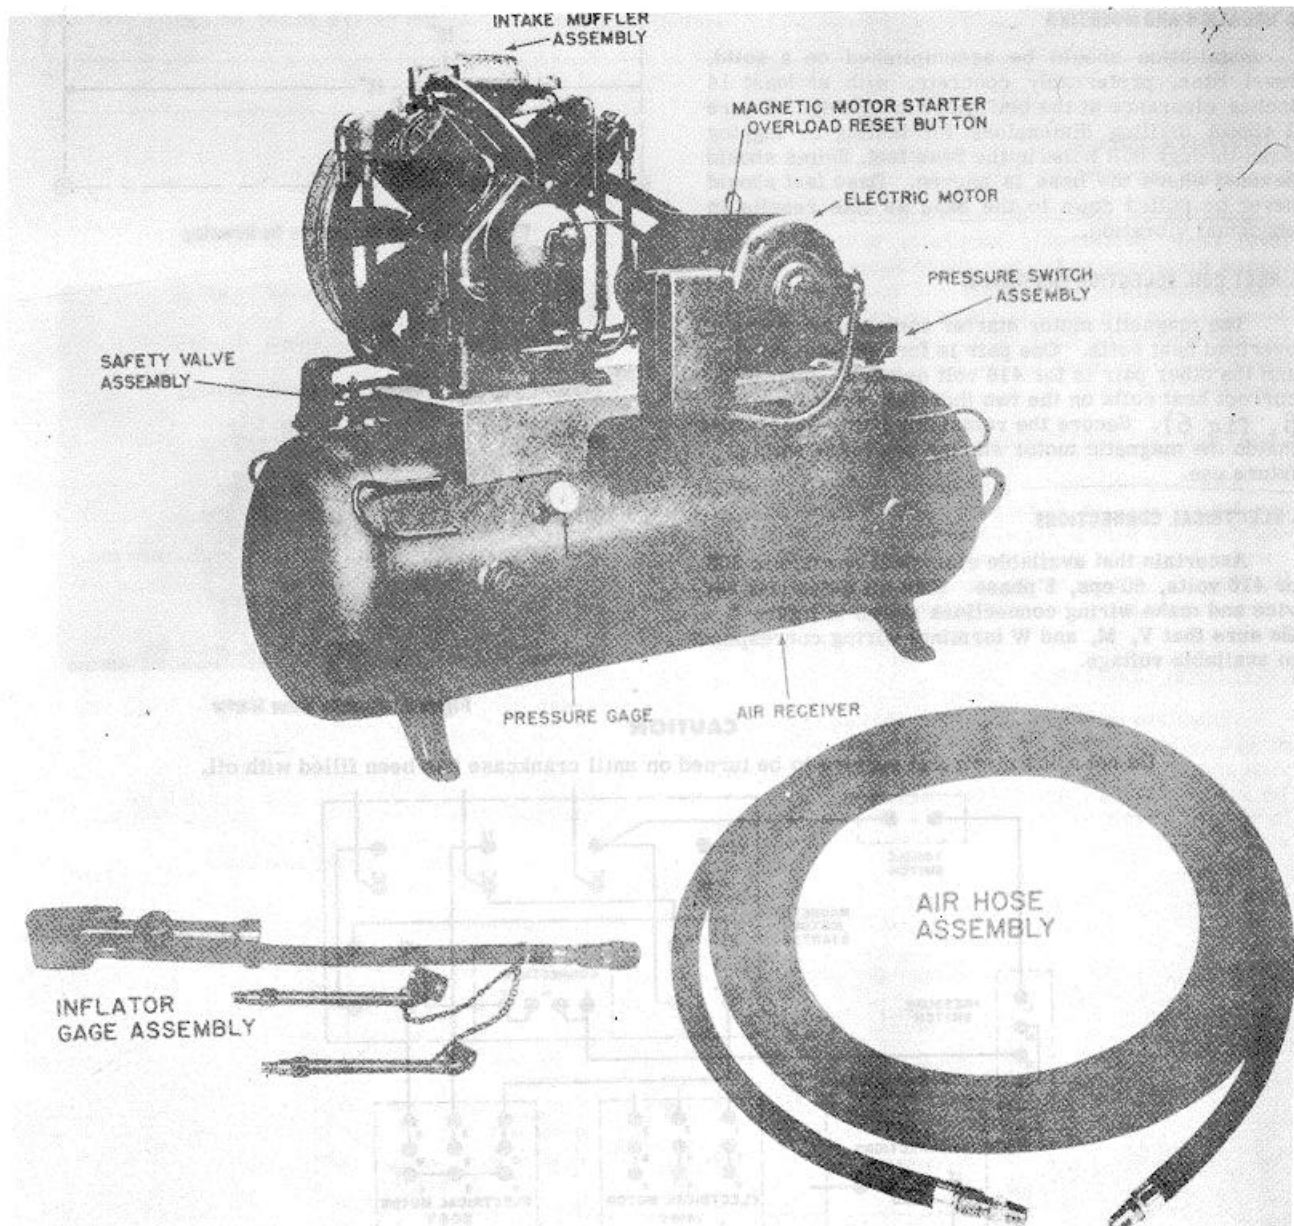

Figure 1. HR7-8M-1 Air Compressor
The HR7-8M-1 (figure 1) is a four cylinder, reciprocating type air compressor capable of delivering 25 cubic feet per minute. The compressor assembly and associated electric motor are mounted on a frame which is welded to the air receiver, an 80 gallon steel tank. The electric motor drives the compressor assembly by means of a matched pair of V belts associated electric motor are mounted on a frame which is welded to the air receiver, an 80 gallon steel tank. The electric motor drives the compressor assembly by means of a matched pair of V belts.
- a. Connect air hose (see fig.1) to globe valve (16, fig7) and connect inflator gage assem. (fig.1)to air hose.